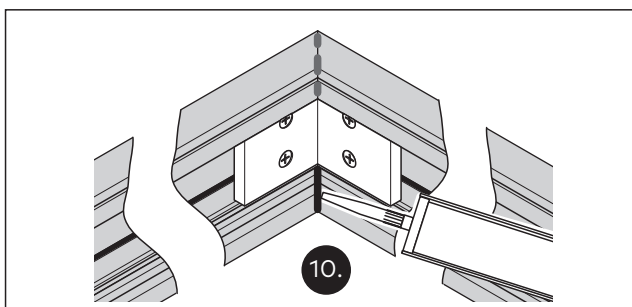

Fig. 20 Siliconize the profile edges and impact areas from the inside
- 10. Siliconize all profile edges and impact areas from the inside (Fig. 20).